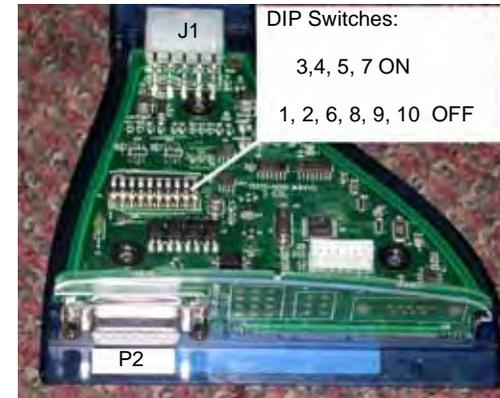

Figure 1 FDI Switches
- c. Set switches as shown in Figure 1.